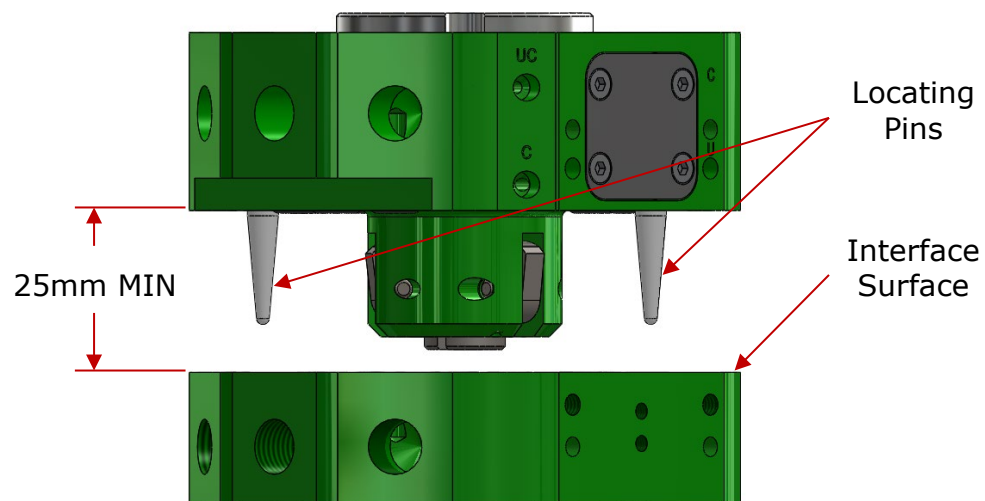

Figure 6.2-1. E63 Tool Changer – Docking Orientation
1. Orient the Robot Side and Tool Side so that the centerline axes are aligned and the interface surfaces are parallel. Maintain approximately 25mm minimum separation between the Robot Side and Tool Side interface surfaces (Figure 6.2-1).